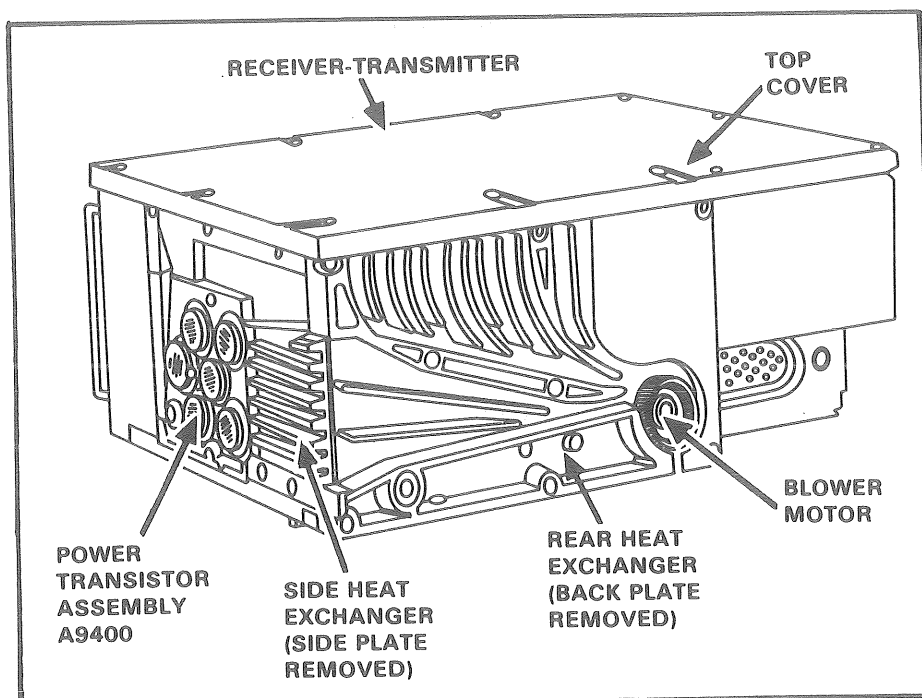

Figure 3. Heat exchanger of receiver-transmitter.
- h. Clean the heat exchanger (fig 3). This operation is optional:
- (1) In dusty areas, the cleaning should be performed more often than quarterly.
- (2) In dry, cold, or nondusty areas, this operation may be performed at quarterly intervals.